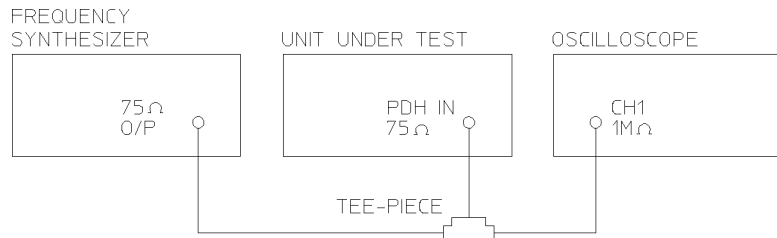

Figure 3-32
2. Connect up the equipment as shown in Figure 3-32.